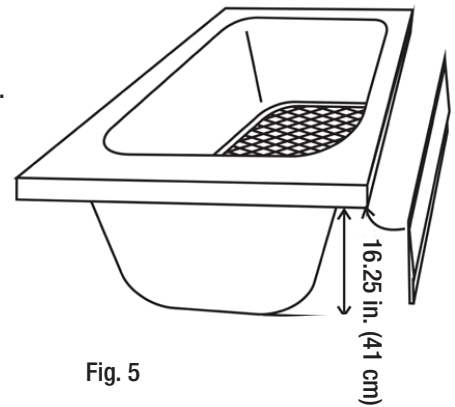

Fig. 5
7. Check the location of the drain pipe and make any adjustments at this time. Make sure you leave adequate access for final hook-up (optional skirt allows for this). If using optional skirt, you will need minimum clearance as indicated on Fig. 5 from the finished floor.